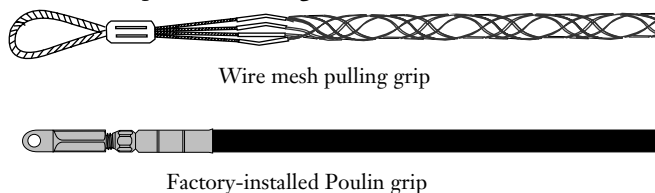

Figure 9 Pulling grips
**4.20** Corning Cable Systems recommends the use of a GRP series (Kellems® grip) wire mesh pulling grip or a factory-installed Poulin® pulling grip and swivel during cable pulls. Pulling grips provide effective coupling of pulling loads to the jacket, aramid yarn, and central member of fiber optic cables (Figure 9).